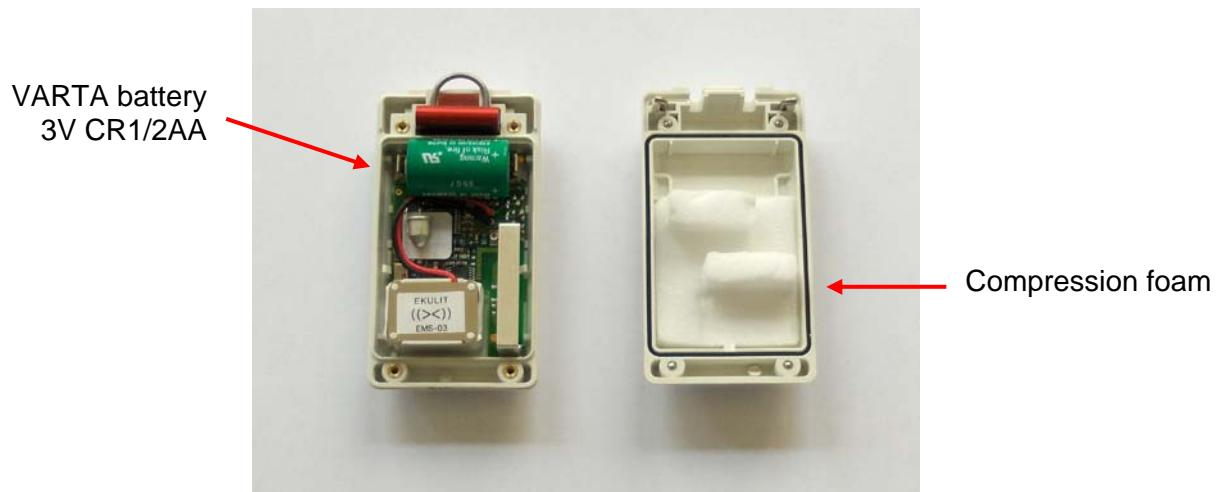

Fig. 4. Opening the ManDown Sensor
- Carefully place the compression foam as shown in *Fig. 4. Opening the ManDown Sensor*.